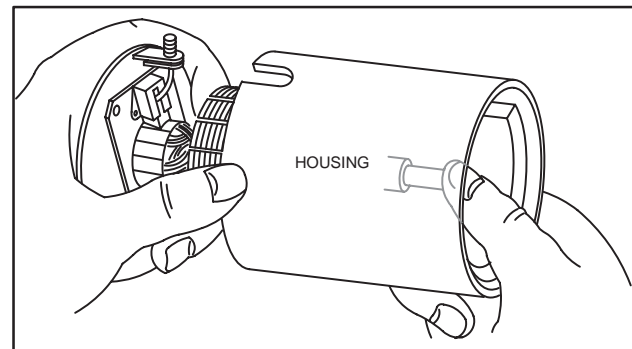

Fig. 674 – INSERTING ARMATURE
3. Support armature shaft and slide it slowly into housing, as shown in Fig. 674.